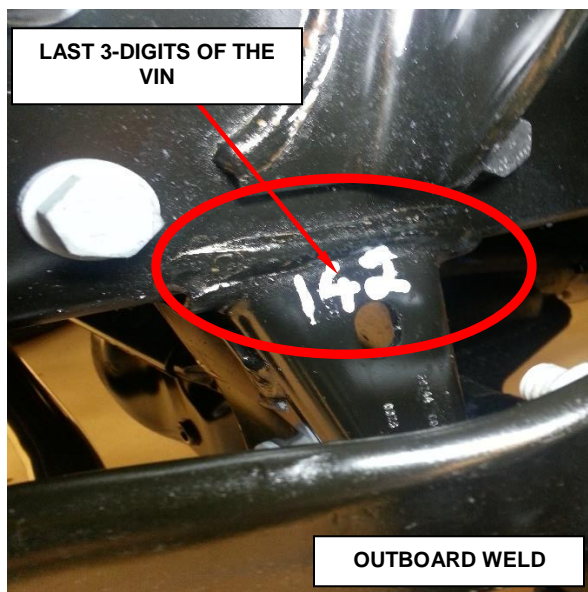

Figure 1 – Outboard Track Bar Weld
1. Clean the surrounding inboard and outboard weld areas with a wet cloth (Figures 1 and 2).
2. Turn the steering wheel all the way to the left to gain access to the track bar bracket frame outboard weld (Figures 1 and 2).
3. Ensuring sufficient lighting, using a paint pen or equivalent write the last 3-digits of the Vehicle Information Number (VIN) on the outboard frame bracket and take a photo of both welds (Inboard and Outboard weld) as shown in (Figures 1 and 2).
- Photo of the outboard weld **with** the last 3-digits of the **VIN marked** (Figure 1).